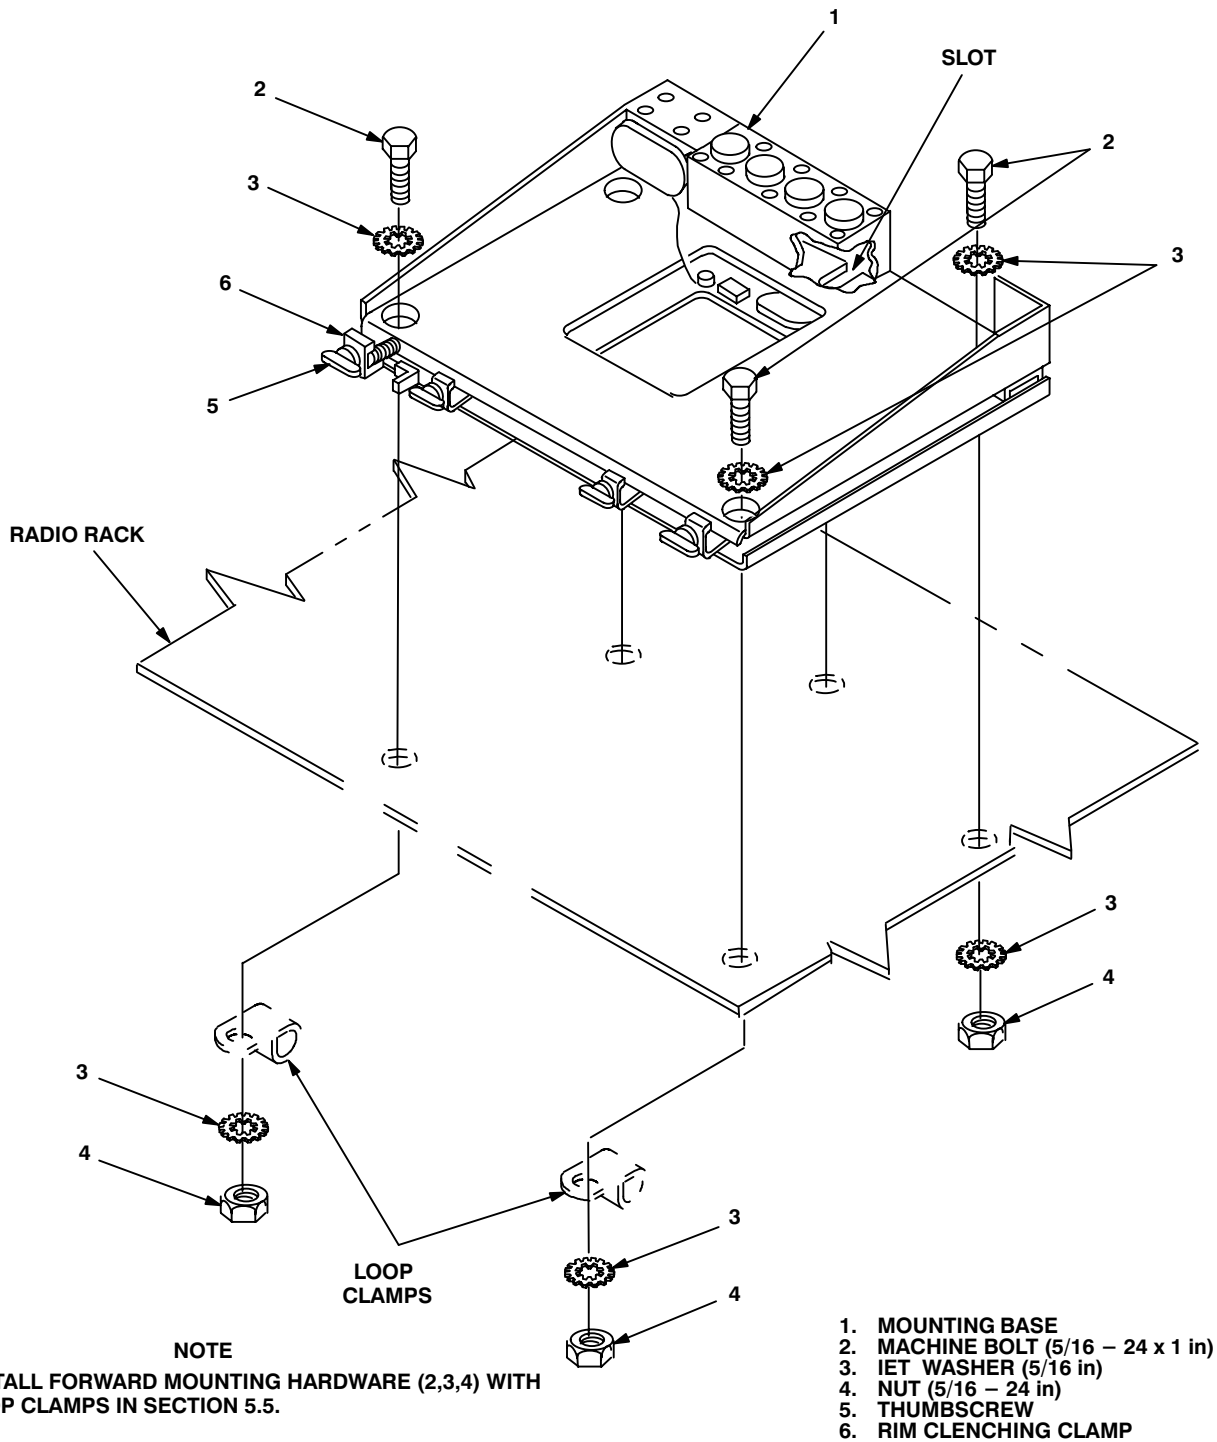

Figure 5-6. Mounting Base Installation
**5.4 Installation of Mounting Base, Electrical Equipment MT-6352/VRC (mounting base).** Remove and retain attaching bag of 5/16 in mounting hardware for installation. To insure good electrical grounding, any rust, corrosion or paint around mounting holes in radio shelf should be removed before installing the mounting base. See figure 5-6 and perform the following steps.